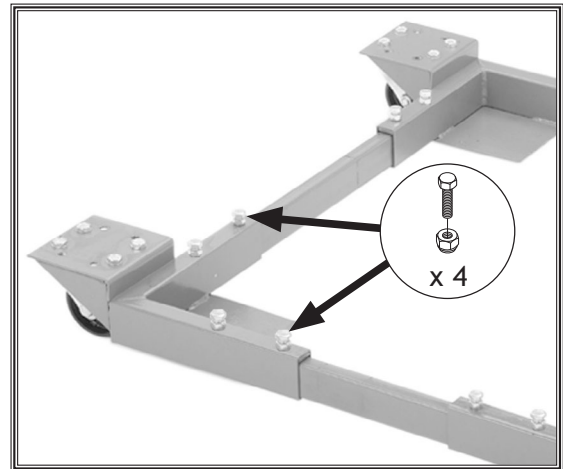

Figure 11. Rails secured to fixed corner brackets.
8. Secure each corner bracket to two rails with (4) M8-1.25 x 16 hex bolts and 8mm lock nuts, as shown in **Figure 11**.
Each side rail-to-corner bracket connection must have a minimum of two hex bolts installed, making a total of four bolts at each corner, as shown in **Figure 11**. Do not load any machine onto the base until all of these bolts have been installed and tightened. Loading a machine onto the base before completing assembly can result in the machine falling or tipping over, resulting in serious personal injury.